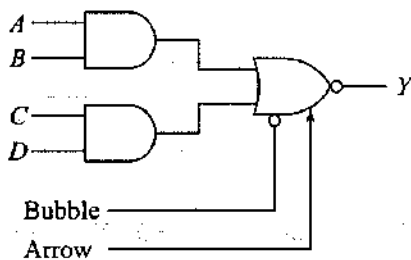

Fig. 2.33 Expandable AND-OR-INVERT gate
- Figure 2.33 shows the logic symbol for an expandable AND-OR-INVERT gate. There are two additional inputs, labeled *bubble* and *arrow*. Table 2.7 lists the expandable AND-OR-INVERT gates in the 7400 series.
- Visualize the outputs of Fig. 2.34a connected to the arrow and bubble inputs of Fig. 2.33. Figure 2.34b shows the logic circuit. This means that the expander outputs are being ORed with the